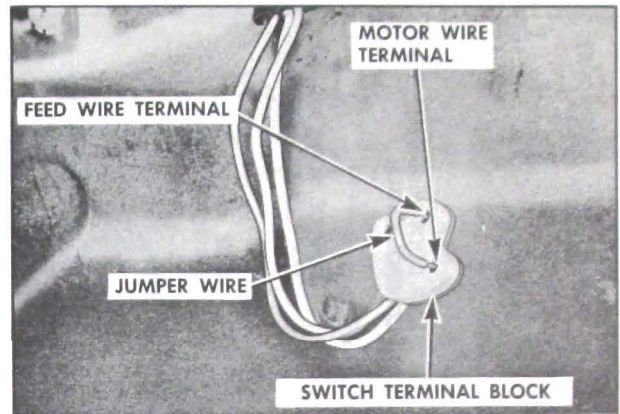

Figure 8-5—Checking Window Control Switch
a. Insert one end of a #12 gauge jumper wire to the switch feed terminal and the other end to one of the motor lead terminals in the switch block. Repeat this check on the remaining motor lead terminal. See Figure 8-5.
b. Insert one end of a #12 gauge jumper wire to the switch feed terminal and the other end to one of the motor lead terminals in the switch block. See Figure 8-5.